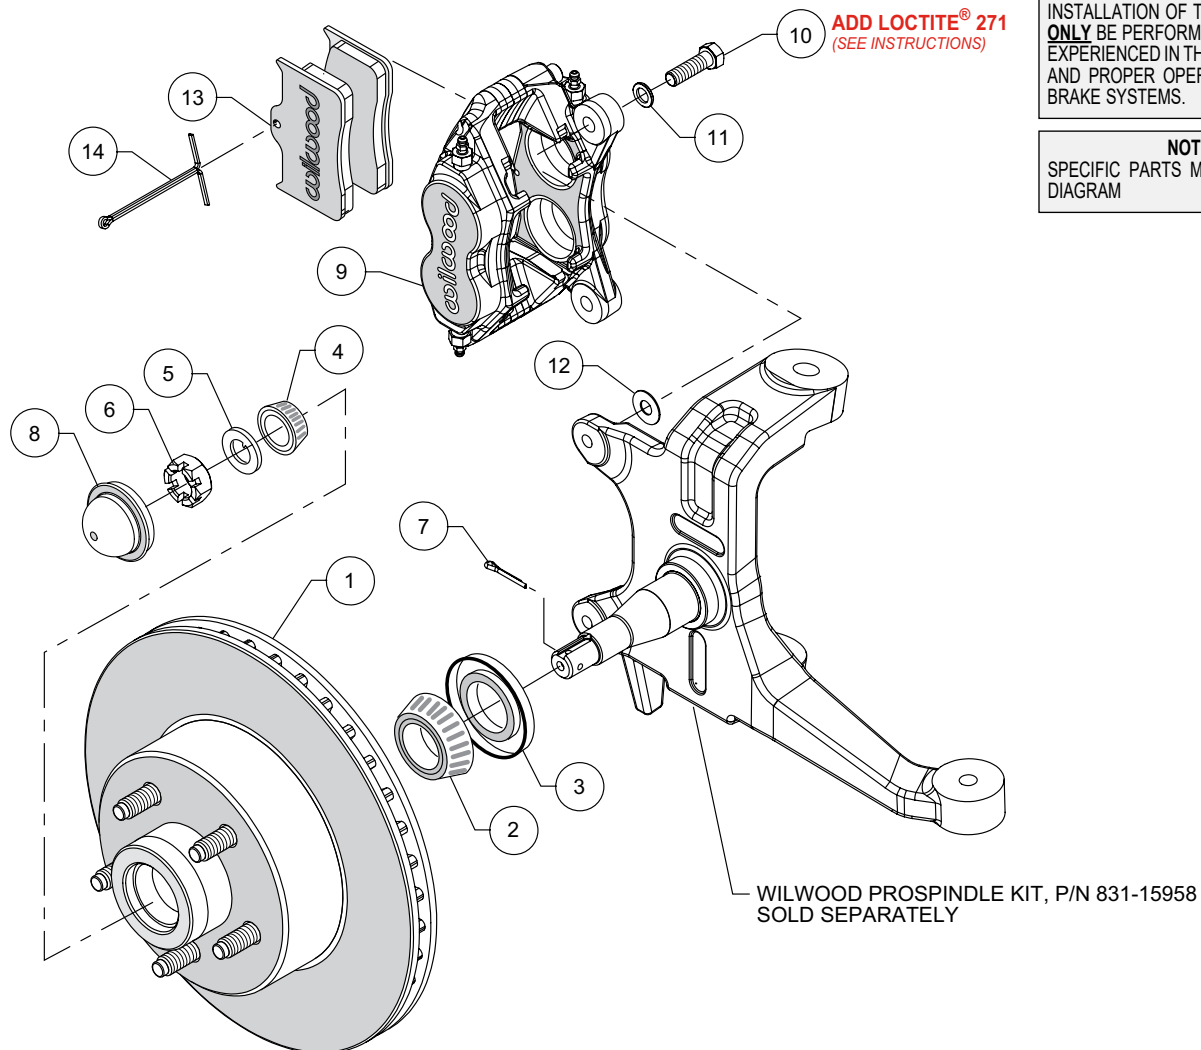

Figure 1. Typical Installation Configuration
**NOTE:** Numbers in parenthesis refer to the parts list and Figure 1 on the preceding pages.
- Pack the large inner bearing cone (2) with high temperature disc brake bearing grease (available from your local auto parts store) and install into the backside of the hub/rotor (1), Photo 1.
- Install the grease seal (3) by pressing into the backside of the hub/rotor (1), flush with the end of the hub.
- Pack the small outer bearing cone (4) with high temperature disc brake bearing grease and install into the front side of the hub/rotor (1). Slide the hub/rotor onto the spindle. Secure using spindle washer (5) and spindle nut (6), Photo 2. Bearing adjustment: Tighten the nut while turning the hub. When there is a slight bind on the bearings, they are seated correctly. Back the nut off about 1/6 to 1/4 of a turn, or sufficiently to allow .001" to .007" end play. **WARNING:** Failure to back off adjusting nut could cause bearing to run hot and be damaged, which could cause the wheel to lock or come off. Install new cotter pin (7).
- Press the dust cap (8) into the hub/rotor (1). **NOTE:** Do not hammer center of cap. Install using outer flange only.
- Mount the caliper (9) onto the caliper mounting tabs on the spindle using bolts (10) and washers (11), as shown in Figure 1. Initially place one .035" thick shim (12) on each bolt between the caliper and the mounting tabs on the spindle, Figure 1 and Photo 3. Temporarily tighten the mounting bolts and view the hub/rotor (1) through the top opening of the caliper. The rotor should be centered in the caliper (9), Photo 4. If not, adjust by adding or subtracting shims (12) between the mounting tabs and the caliper. Always use the same amount of shims on each of the two mounting bolts. Once the caliper alignment is correct, remove the bolts (10) one at a time, apply red *Loctite*® 271 to bolt threads, and torque to 40 ft-lb.
- Install the disc brake pads (13) into the caliper, with the friction material facing the hub/rotor (1), Photo 5. Secure in place using cotter pin (14), Photo 6.